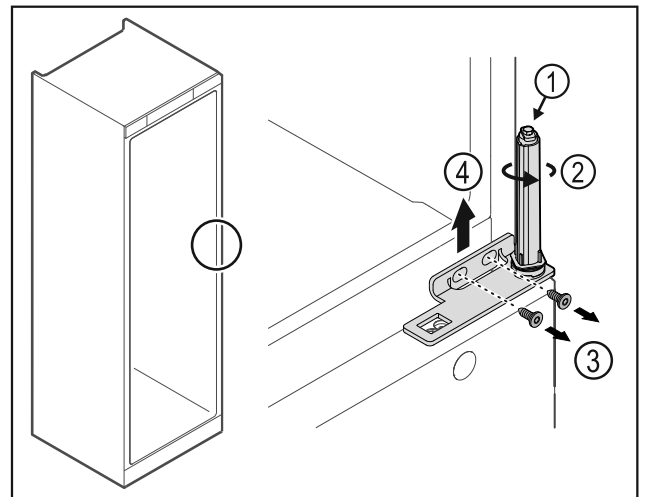

Fig. 31
- ▶ Do not disassemble the door closing system Fig. 31 (1).
- ▶ Turn the closing system Fig. 31 (2) until it clicks.
- ▶ Loosen the screws Fig. 31 (3) and lift off the hinge Fig. 31 (4).